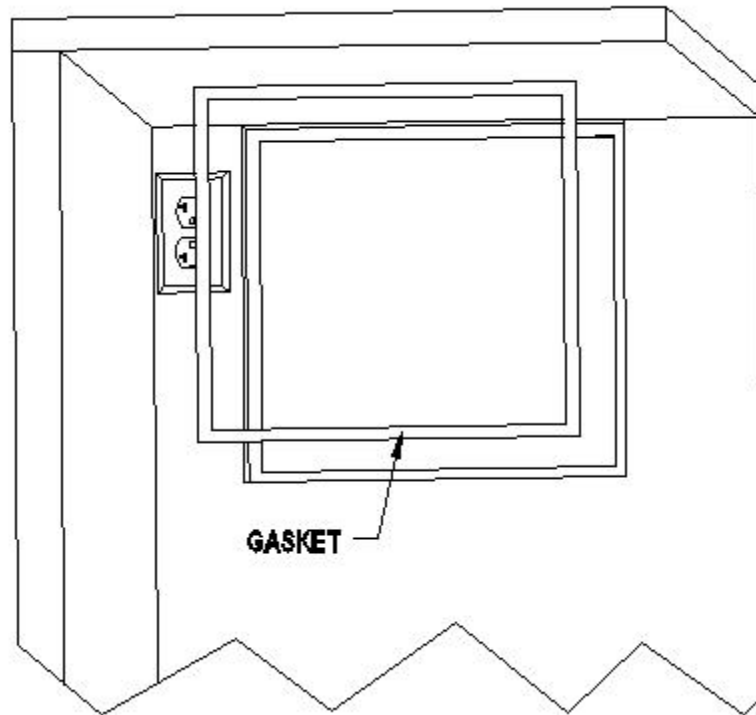

Fig. 2.2 GASKET
- Place the gaskets on the mounting lip sides (see Fig 2.2).